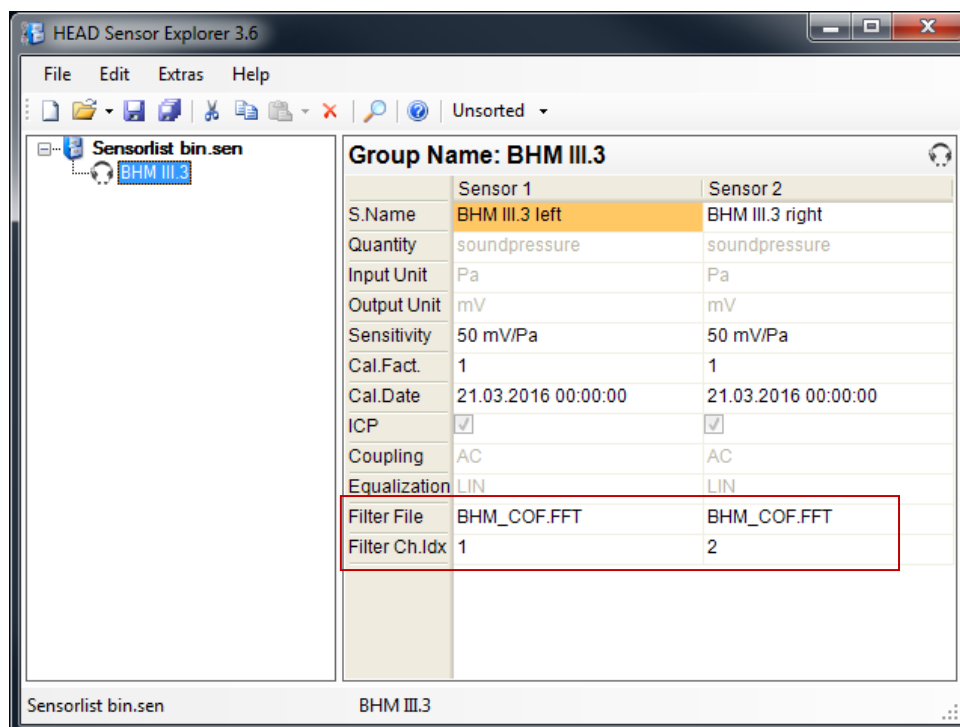

Figure 3: Definition of a BHM sensor in the Sensor Explorer
2. Another possibility is to configure the equalization via the software used. To do this in the HEAD Sensor Explorer³, the custom equalization filter for the BHM must be included in the **Filter File** field when defining the BHM sensor (see figure 3, next page). This custom equalization filter file is included on the equalization CD shipped with the BHM and must be entered in the corresponding fields of the Sensor Configuration for both channels separately. In recordings made with ArtemiS SUITE Data Acquisition Module (HEAD Recorder), this custom filter with the ID equalization is automatically used for the BHM channels. An additional equalization activated via the **Equalization** field would cause double filtering and distort the recorded signal. To prevent this, this field is grayed out automatically as soon as an equalization filter has been entered in the **Filter File** field. Furthermore, when generating a new BHM sensor, the sensitivity of the microphones can be entered in the field **Sensitivity**. The correct value can be found in the calibration certificate, which was delivered with the BHM.